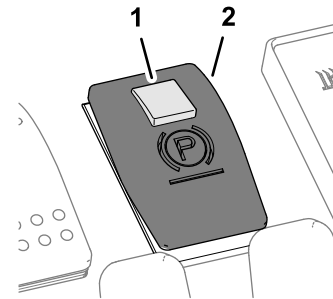

Figure 6
- To engage the parking brake, slide the small locking button on the top of the switch back and press the switch forward (Figure 6).